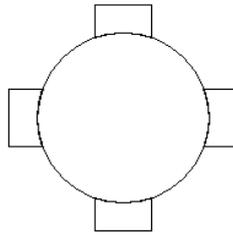

Fig. 1.7.21
**Main:** Retain the main object and the none-overlapping parts of the other objects, see Fig.1.7.21.